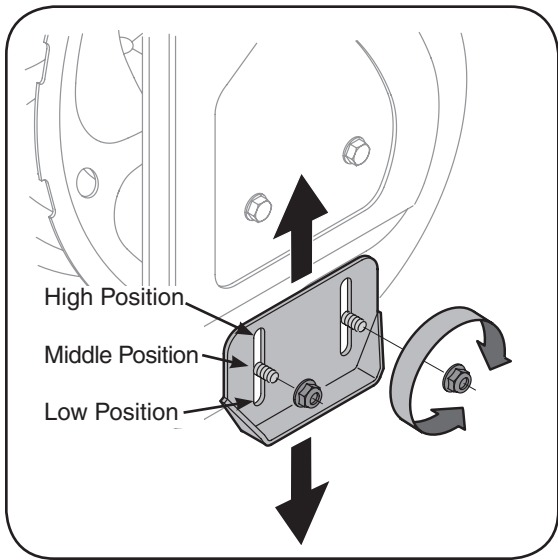

Figure 4
For close snow removal, place skid shoes in the low position. When the area to be cleared is uneven, place skid shoes in the middle or high position. See Figure 4.
1. Adjust skid shoes by loosening two hex nuts and carriage bolts on each skid shoe, and move the skid shoe to the desired position. See Figure 4.